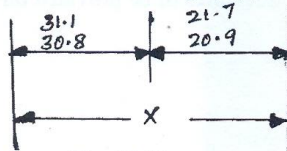

Fig.Q2(b)
- b. Find the resultant 'X' for the Fig.Q2(b). (10 Marks)